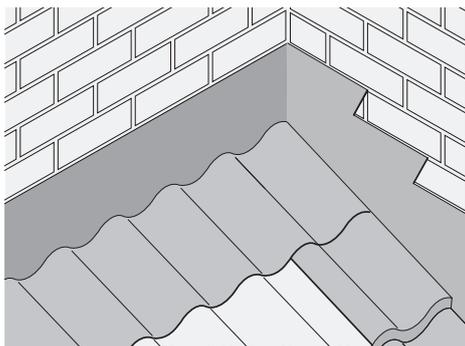

Fig. 24 – Top edge abutment
- 8 Dress lead to profile of tiles (Fig. 24).